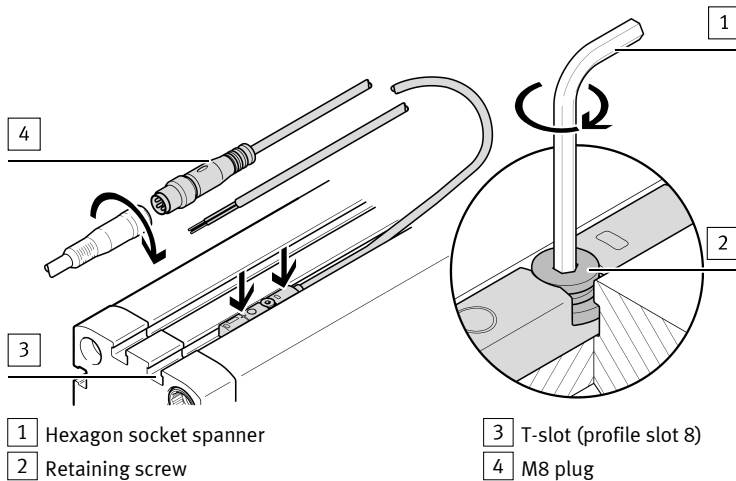

Fig. 11 Mechanical installation
- Connect the M8 plug to the connecting cable of the higher-order controller → Fig.11, [4].